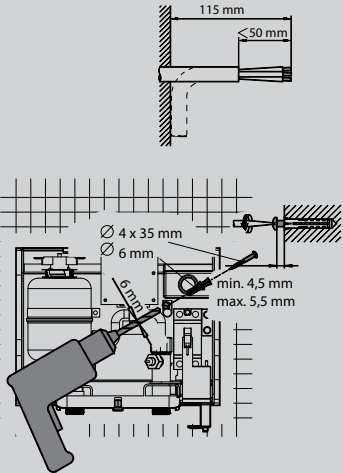

Fig 2
- Insert the wall plugs and screw. Make sure insertion depth is correct (Fig.2).